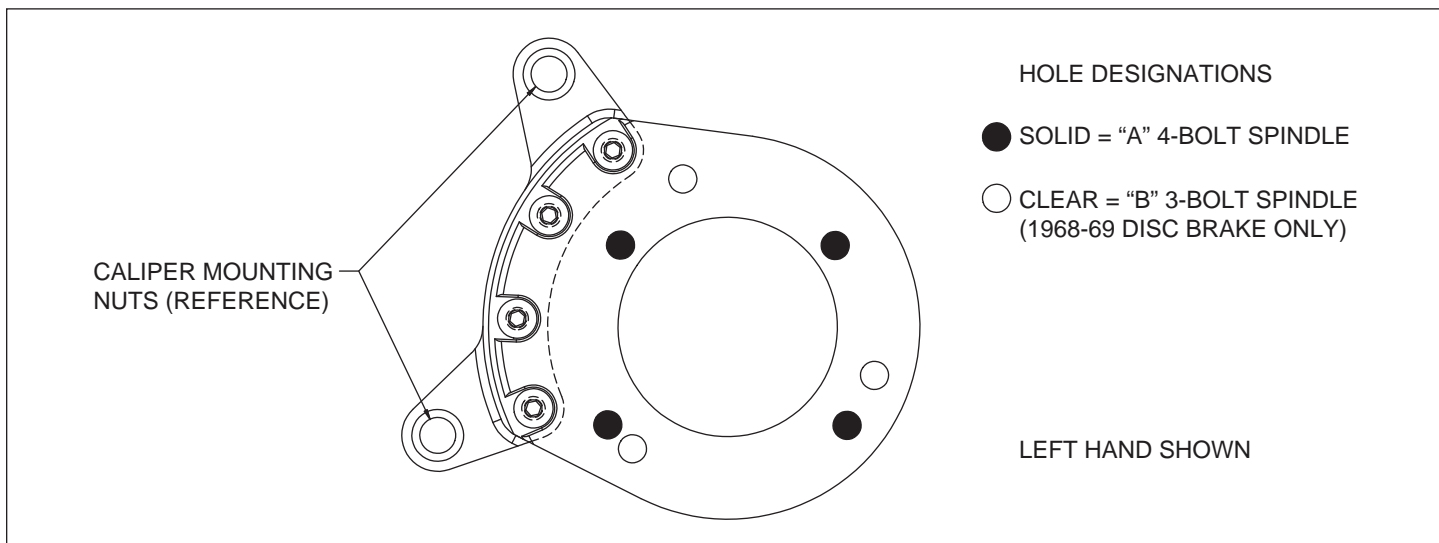
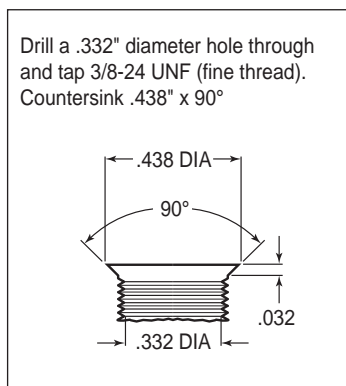
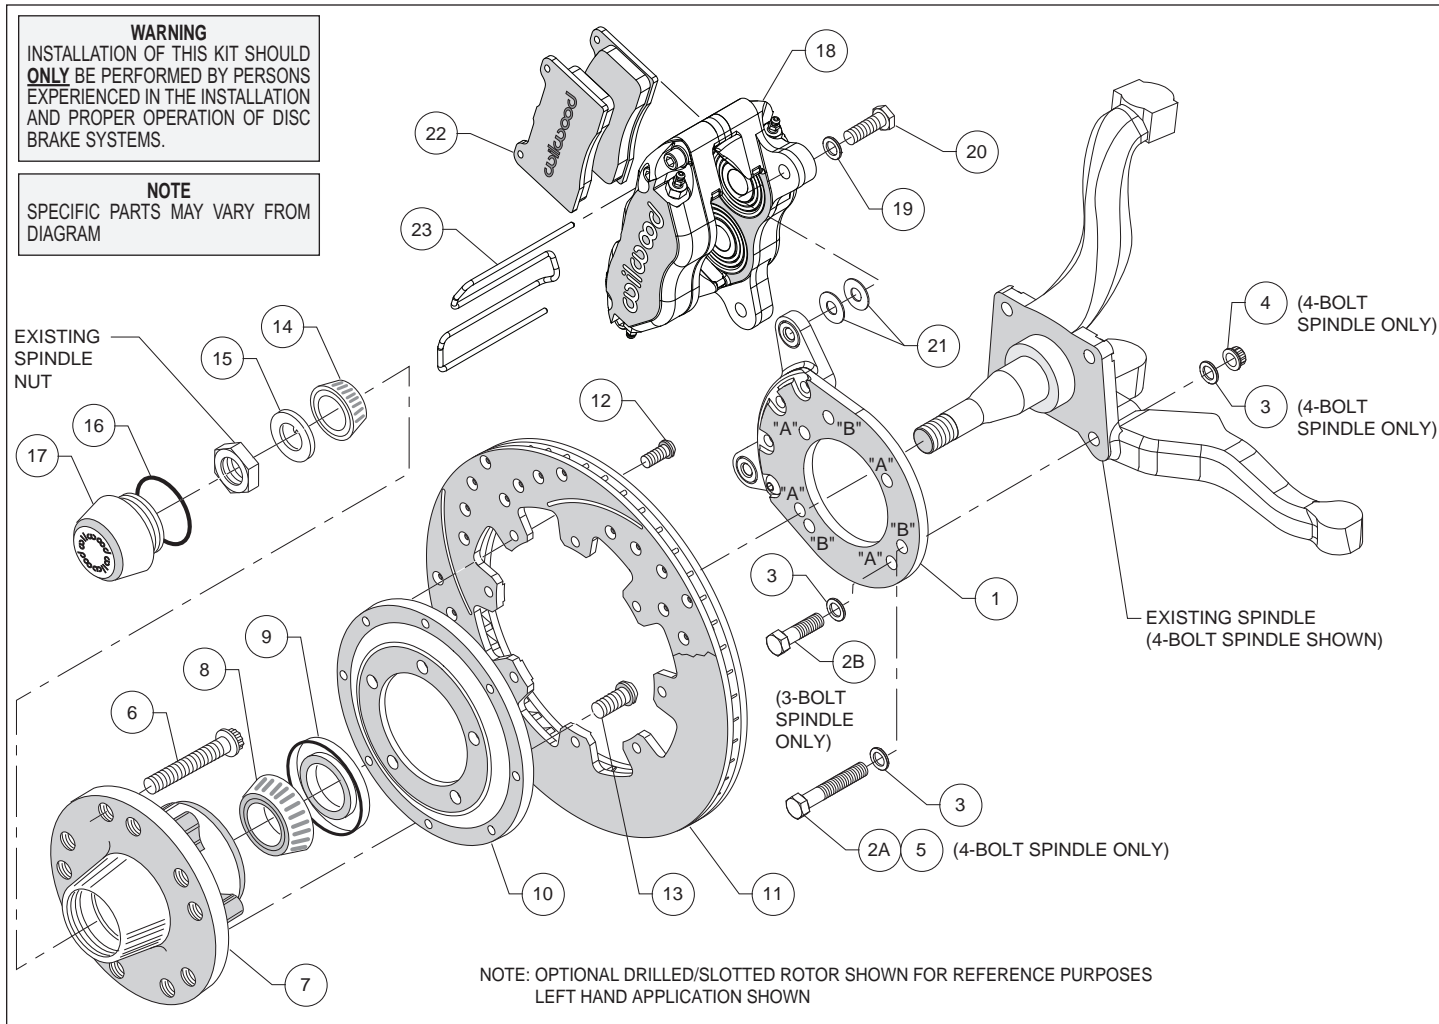
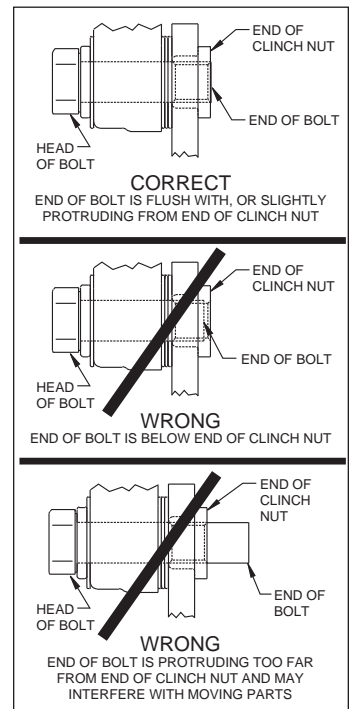

Figure 1. Wilwood Caliper Mounting Bracket
Figure 2. Drill and Tap Detail
Figure 4. Typical Installation Configuration
Figure 5. Clinch Nut Engagement Diagram
This kit has been designed for use with both three and four bolt spindle configurations. The only difference is in how the Wilwood caliper mounting bracket is installed. The same bracket is used for both configurations; only the 1968-69 disc brake spindle utilizes three mounting holes while all other spindles use the four mounting holes (see Figure 1). For your convenience we have supplied bolt kits for both applications (see parts list and Figure 4 as necessary). Use the bolt kit that is applicable to your vehicle and disregard the other one.
**NOTE:** This modification should be performed by a qualified machinist and completed before assembly of the Wilwood disc brake kit begins. Using the caliper mounting bracket as a template (refer to Figure 1 as necessary), locate and verify the three original holes on the spindle that need to be modified. Drill a .332" diameter hole through all three holes, then tap 3/8-24 UNF (fine thread). Countersink the holes to .438" diameter x 90°, as shown in Figure 2.
**Assembly Instructions** (numbers in parenthesis refer to the parts list, and Figure 4 on the preceding pages): **CAUTION:** All mounting bolts must fully engage clinch nuts. Be sure to check that all bolts are either flush or protruding through flanged side of clinch nut after shimming, Figure 5.
•**NOTE:** This kit uses the same mounting bracket (1) for both the three and four bolt brake spindles. The 4-bolt version, Photo 1, uses four mounting bolts (designated "A"), while the 3-bolt version, Photo 2, uses three (designated "B"). Refer to Figures 1 and 4 for the basic installation position of the bracket and the "A" and "B" reference designations (not physically marked on the brackets).
**For 4-Bolt Spindle:** Align bracket, using the four "A" holes, to the face of the spindle and attach using bolts (2A and 5), washers (3), and lock nuts (4), as shown in Figure 4. Ensure that the flanged heads of the clinch nuts in the bracket are facing outboard, Photo 1. Torque lock nuts to 30 ft-lb.
**For 3-Bolt Spindle (1968-69 Disc Brake):** Align bracket, using the three "B" holes, to the face of the spindle and attach using bolts (2B) and washers (3), as shown in Figure 4. Finger tighten. Ensure that the flanged heads of the clinch nuts in the bracket are facing outboard, Photo 2. Remove bolts one at a time, apply red *Loctite*® 271 to threads, and torque to 40 ft-lb.
- Install wheel studs (6) into the hub (7), Photo 3. Torque to 77 ft-lb. **NOTE:** There are two five lug patterns in the hub (5 x 4.50 and 5 x 4.75). Ensure the correct hub stud pattern is being used to fit the wheel application.
- Pack the large inner bearing cone (8) with high temperature disc brake bearing grease (available from your local auto parts store) and install into the backside of the hub (7), Photo 4.
- Install the grease seal (9) by pressing into the backside of the hub (7), flush with the end of the hub, Photo 4.
- Orient the rotor (11) and the rotor adapter (10) as shown in Figure 4 and Photo 5. Attach the rotor to the adapter using bolts (12). Using an alternating sequence, apply red *Loctite*® 271 to the threads, and torque to 25 ft-lb.
- Mount the adapter/rotor assembly (10/11) to the hub (7) using bolts (13), as shown in Figure 4 and Photo 6. Using an alternating sequence, apply red *Loctite*® 271 to the threads, and torque to 45 ft-lb.
- Pack the small outer bearing cone (14) with high temperature disc brake bearing grease and install into hub (7). Slide the hub/rotor assembly onto the spindle. Secure using spindle washer (15) and OEM spindle nut, Photo 7. Adjust bearings per OEM specifications. Install saved OEM nut lock (if any) and a new cotter pin (not included).
- Screw dust cap (17) into hub (7), Photo 8. Friction created by the o-ring (16) on the dust cap keeps it from unscrewing. **NOTE:** The O.D. of the existing OEM spindle washer may be larger than the I.D. of the dust cap not allowing it to seat against the hub face. Therefore, use the spindle washer (15) supplied with the kit instead of the OEM washer.
- NOTE:** Please reference the caution statement at the beginning of the assembly instructions. Mount the caliper (18) onto the caliper mounting bracket (1) using bolts (20) and washers (19), as shown in Figure 4. Initially place two .035" thick shims (21) on each bolt between the caliper and the bracket, Photo 9. Temporarily tighten the mounting bolts and view the rotor (11) through the top opening of the caliper. The rotor should be centered in the caliper, Photo 10. If not, adjust by adding or subtracting shims between the bracket and the caliper. Always use the same amount of shims on each of the two mounting bolts. **NOTE:** The end of each bolt must be flush with or slightly protruding from the head of the clinch nut, as shown in Figure 5. If necessary place spare shims between washer (19) and caliper